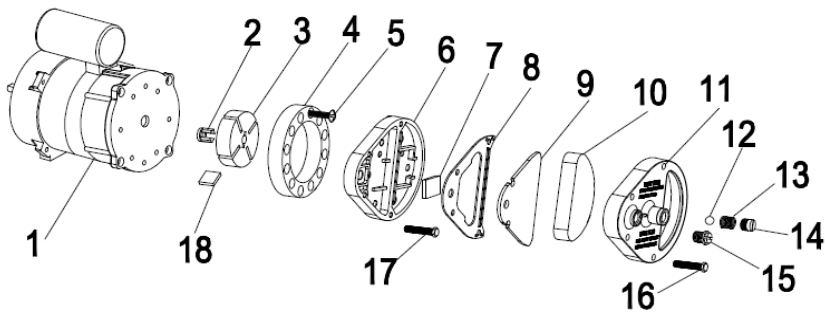

Fig. 9
Clean air filters. Remove filter end cover (11), wash air intake filter (10) using a light detergent and dry it thoroughly before re-installing. Replace air delivery filter (9) once a year (Fig.9)